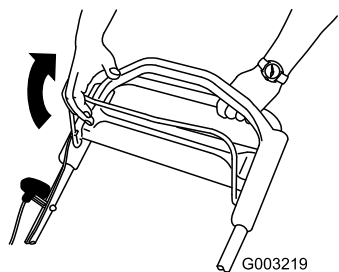

Figure 17
2. Hold the blade control bar against the handle (Figure 17).